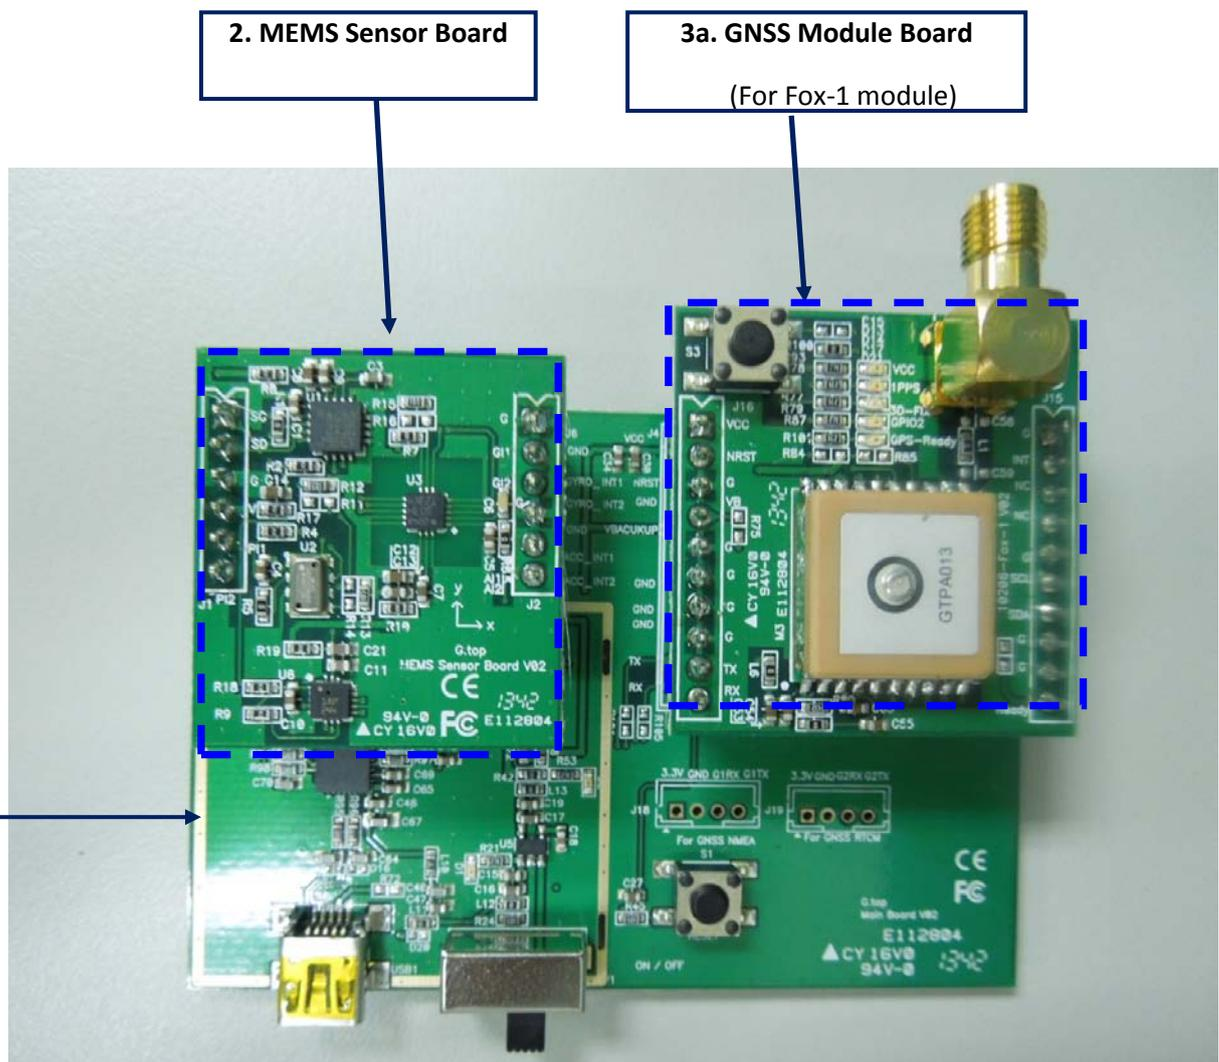

Figure 2. EV-Kit boards
- Ensure that the boards are on the correct placement orientation. Refer to Fig.2